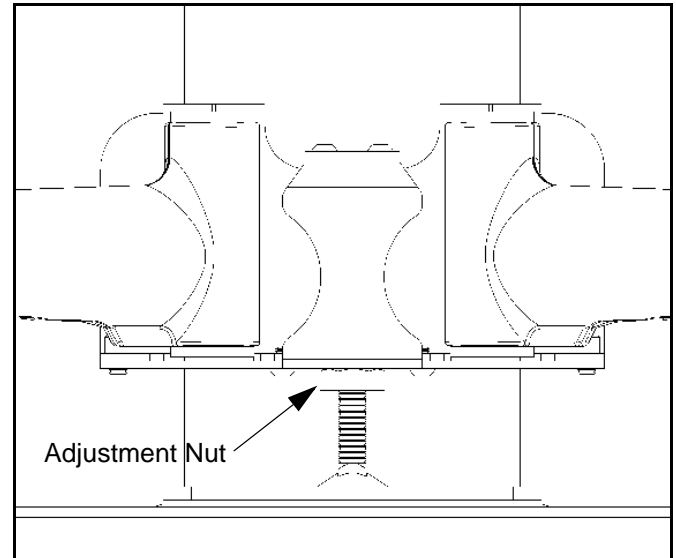

Figure 4: Adjust PDR Height
- Turn adjustment nut (See figure 4) clockwise (CW) to lower the unit height, or